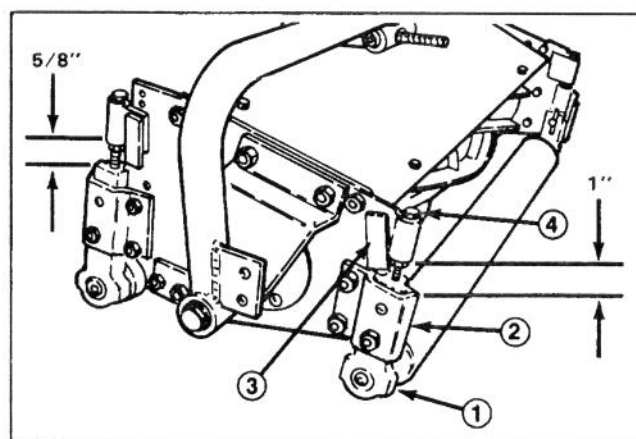

Figure 6
## LEVEL REAR ROLLER (Fig. 6) (Floating Cutting Unit)
2. Slightly loosen (crack) nut securing each roller bracket to angle bracket (Fig. 6).
3. Adjust support cap screw to achieve  $1'' \pm 1/16$  dimension between Height-of-Cut support and *front* roller bracket (2 places) (Fig. 6).
4. Adjust support cap screw to achieve  $5/8'' \pm 1/16$  dimension between Height-of-Cut support and *rear* roller bracket (2 places) (Fig. 6).